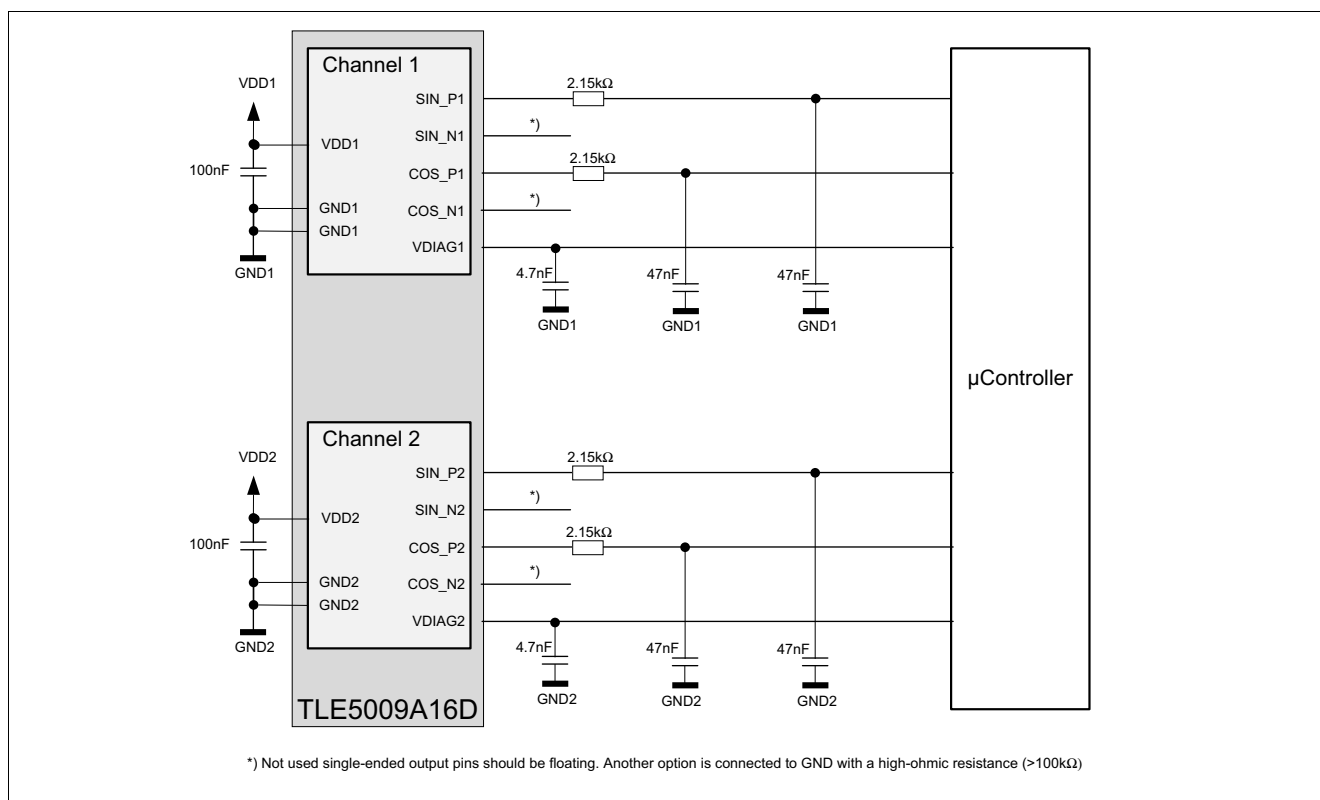
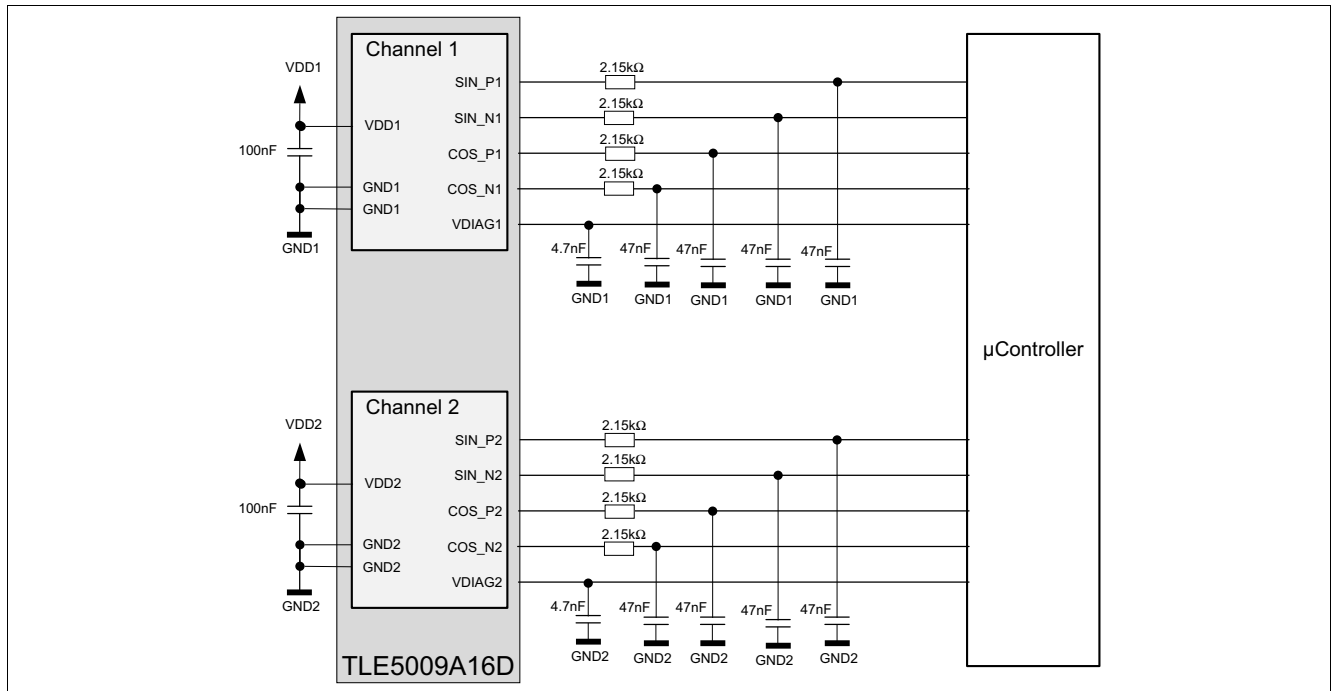

Figure 7 Application circuit for the TLE5009A16D in single-ended output mode; positive output channels used
Figure 8 Application circuit for the TLE5009A16D in differential output mode.
The TLE5009A16(D) sensor can be used in single-ended or differential output mode. **Figure 7** shows a typical application circuit for the TLE5009A16D in single-ended output mode using the positive output channels. For single-ended operation the positive or negative output channels can be used. Unused single-ended output pins should preferably be floating or connected to GND with a high-ohmic resistance ($> 100 \text{ k}\Omega$). The TLE5009A16D has separate supply pins for the two GMR sensor dice. The microcontroller comprises up to 10 A/D inputs used to receive the sensor output signals in differential output mode, illustrated in **Figure 8**. For reasons of EMC and output filtering, the following RC low pass arrangement is recommended. The RC low pass has to be adapted according to the applied rotation speed¹⁾.